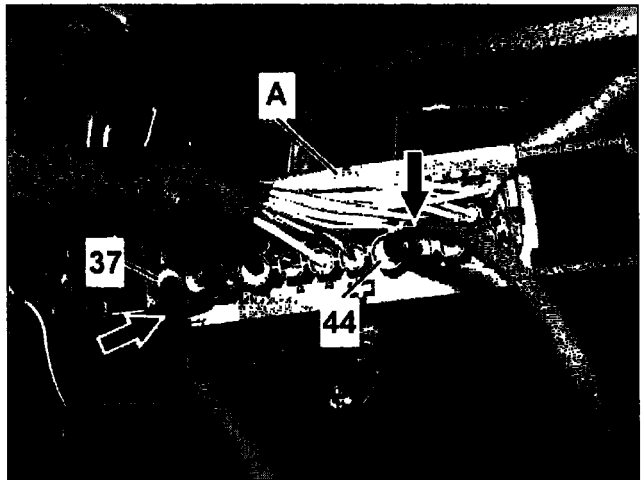

Figure 17
14. Remove SBC ground wires (arrows, Figure 17) from SBC harness connector (A):
- Unpin SBC ground wire connectors (position 37 and 44) using cable release (Special Tools: W 000 589 13 99 30 and W 220 589 01 99 50) and remove ground wires (arrows) from SBC connector housing (A).
15. Insert the new ground wire harness (arrows, Figure 17) into the SBC connector housing (A):